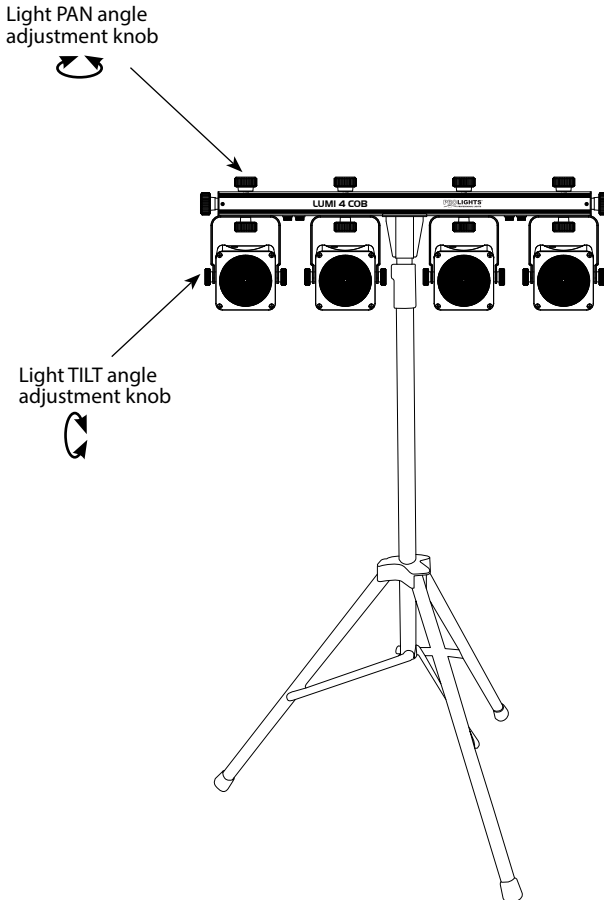

Fig.2
- Using the included tripod stand (fig.2).